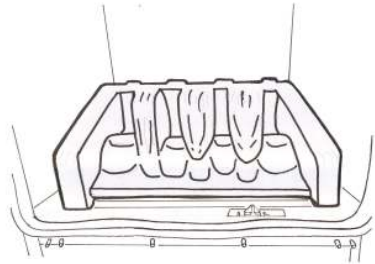

Figure 21 – Rear Ceramic
1. Position the rear burner ceramic in position behind the rear burner flange, as shown in **(Figure 21)**.